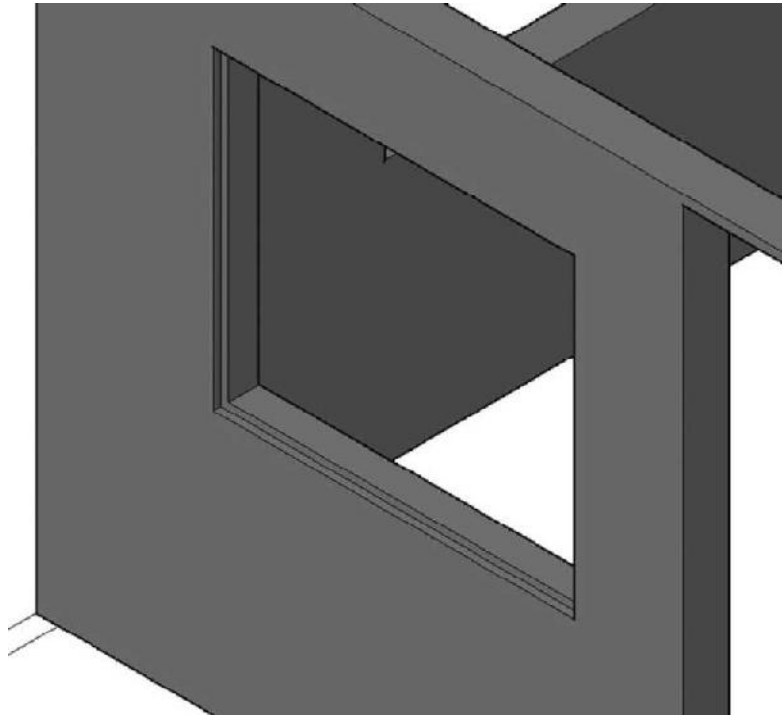

FIGURE 16.30: The completed kitchen window frame
20. Switch back to the Conceptual or X-Ray visual style, and your window should look similar to Figure 16.30.